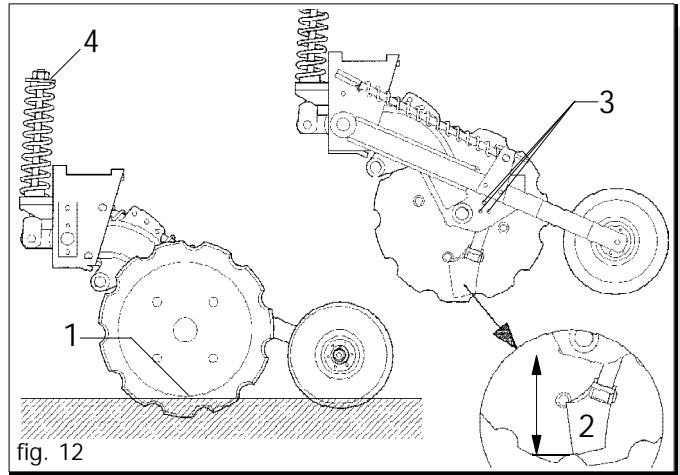

fig. 12
To obtain a good level at which sprouts come out, the seed needs to be placed at the right depth into the seeding bed. The depth of the seed placement correctly determined when the ballast on the side of the disk leans on the ground (fig. 12 rif. 1).
- a) By modifying the **relative position between colter depositor and furrow opener disk**, acting on the colter fastening screws (fig. 12 rif. 3) and moving it to the desired height (fig. 12 rif. 2).
**IMPORTANT:** The inferior hedge of the coulter should never be adjusted deeper than the internal profile of the toothed disk (that is: all inner side of the coulter should always lay against the disk when this is rotating) (fig. 12). When tightening the screws, make sure they are tightened evenly so that the cutting edge of the colter adheres perfectly to the disk surface without interfering with its rotation.
- 4) If necessary adjust all the position springs by means of the nut (4 fig. 12) until you reach the position described at point (3).